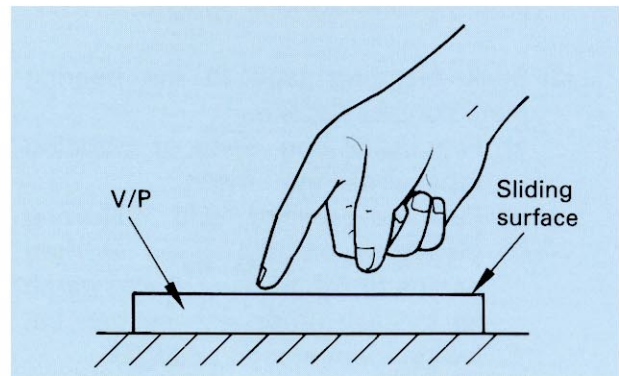

Fig. 1
- (2) Use the tip of your finger to dab paint on about 20 places on the surface of the valve plate. See Fig. 1.